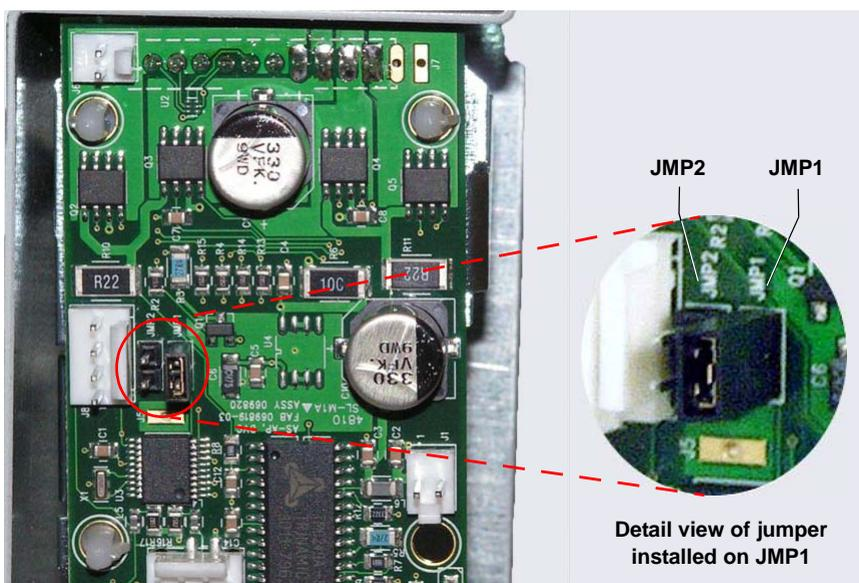

Figure C-1. Jumpers on Valve Electronics Board
1. Locate the two jumpers (labeled **JMP1** and **JMP2**) on the electronics board attached to the rear of the valve (see Figure C-1).
- For a single valve, install the jumper on **JMP1** as shown in the detail view in Figure C-1.